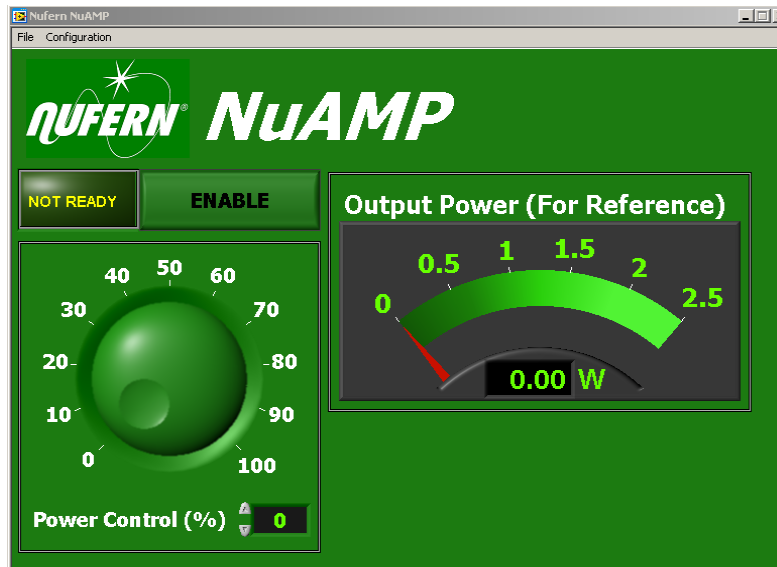

Figure 7: GUI Waiting
6. Go to NuAMP_GUI\ NuAMP_GUI, click on the NuAMP_GUI.exe file to start the GUI. The GUI should show up as shown below in Figure 7. If a message window pops up saying: "The NuControl not found. Please check the hardware connection.", please check the USB connection between the NuControl and the computer.